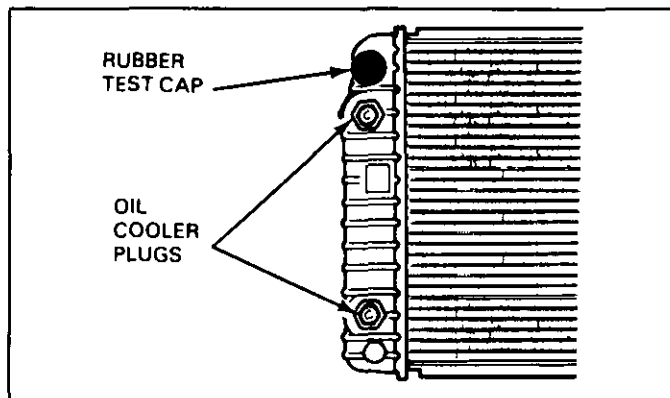

Fig. 23 Aluminum Radiator and Oil Cooler Plugs
1. Install test fittings or rubber test caps in the inlet and outlet necks and seal the oil cooler fittings with metal plugs to protect the cooler and keep the fluid from running out (Fig. 23).